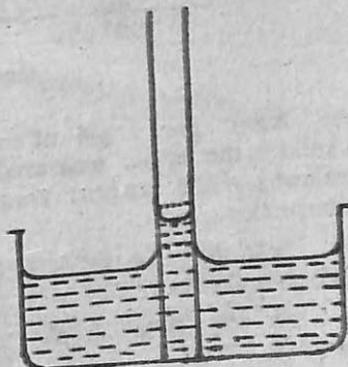

Fig. 28.6. Why water rises.
**Ans.** In the capillary tube (Fig. 28.6), the water meniscus is concave. Now, as the surface of a liquid behaves like a stretched membrane and wants to contract as much as possible, the surface in the tube becomes straight as shown by the dotted line. Hence space below this dotted line is filled by water.